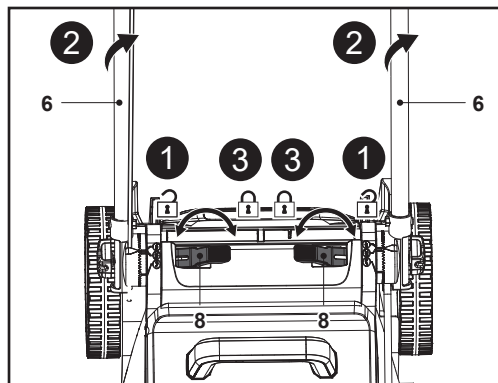

Fig. 11
2. Unfold the two clamp levers (8) with the other hand and then swing the handle assembly (4, 6) to the other handle height position (Fig. 11, steps 1, 2).
3. Ensure that the indicating triangle (6b) is aligned with the handle height indicator (9b/9c), then fold the two clamp levers (8) to secure the handle assembly (4, 6) (Fig. 11, step 3).